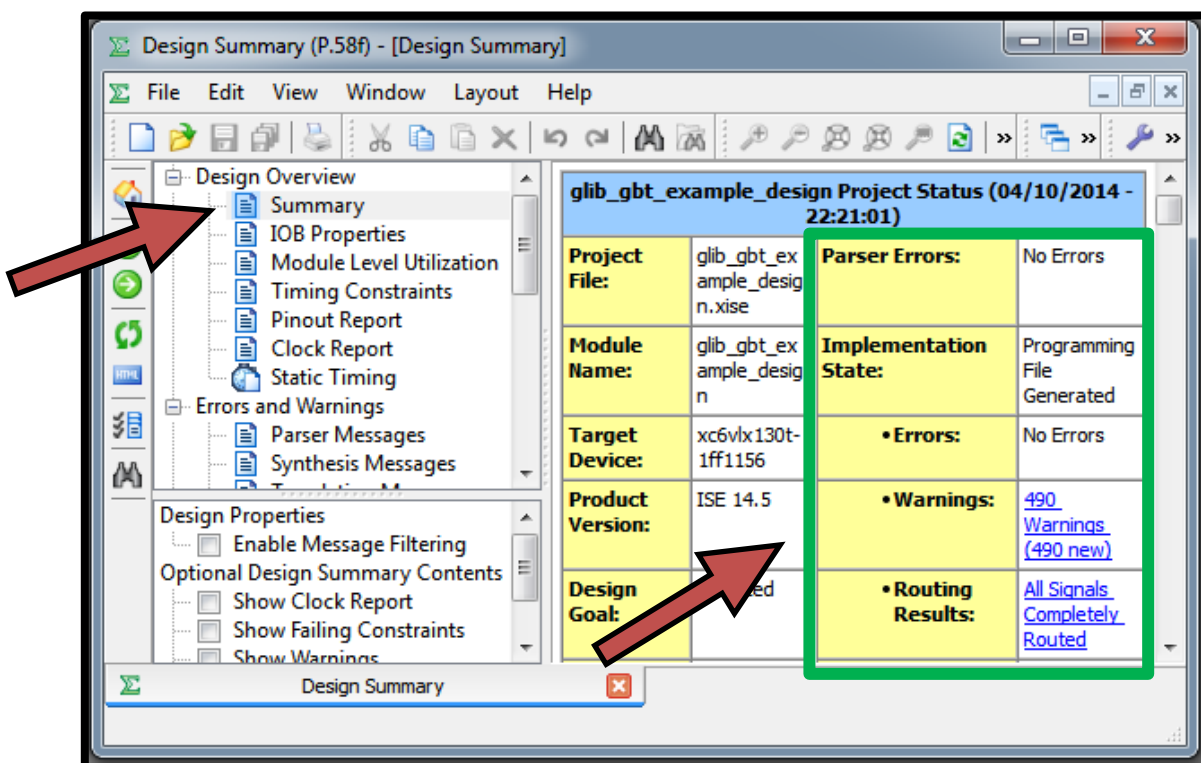

Figure 33: "Design Summary" report
15. The last step of this tutorial is the verification that all processes were done correctly. This information can be seen in the right pane of the "Design Summary" tab, in the section "Design Overview" -> "Summary" (see Figure 33).